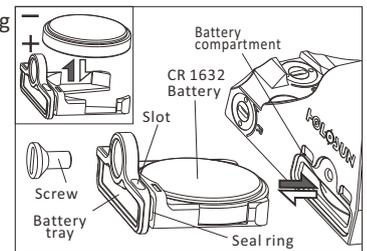

Fig 4
3. Battery Replacement (Fig4):